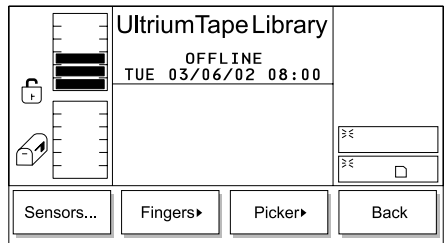

Figure 299. Diags Submenu
- Press the button below the **Diags** softkey. The Diags Submenu displays (see Figure 299).